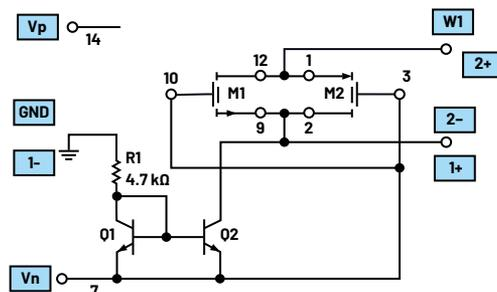

Figure 5. PMOS R_{ON} test circuit.
Now modify your circuit to look like Figure 5 by connecting the gates of both M1 and M2 to the negative power supply V_n . In this second test, only PMOS device M2 is turned on and NMOS device M1 is turned off.
Connect the circuit shown in Figure 5 to a breadboard.
- ▶ For the circuit in Figure 5, at what voltage does the PMOS device turn off?
- ▶ For the circuit in Figure 5, what happens to the source-to-drain voltage as the PMOS transistor turns off?